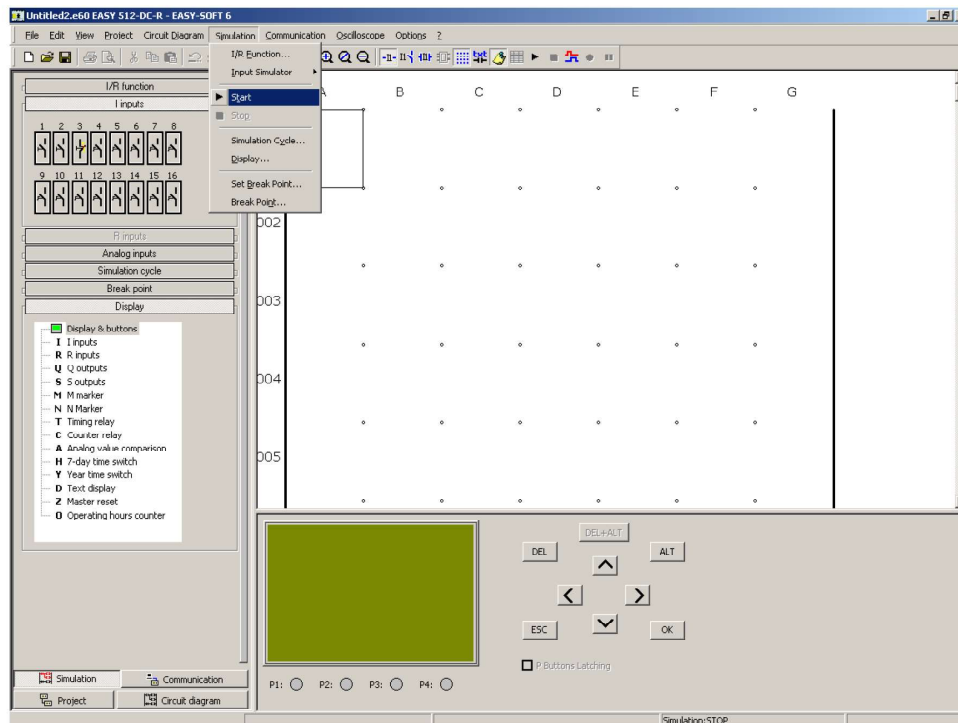

Figure C-4. Starting the simulation.
- 3. Once the program is entered, switch to the Simulation window to test your circuit. Start the simulation by clicking on the Start option in the Simulation menu, at the top of the window, as Figure C-4 shows.